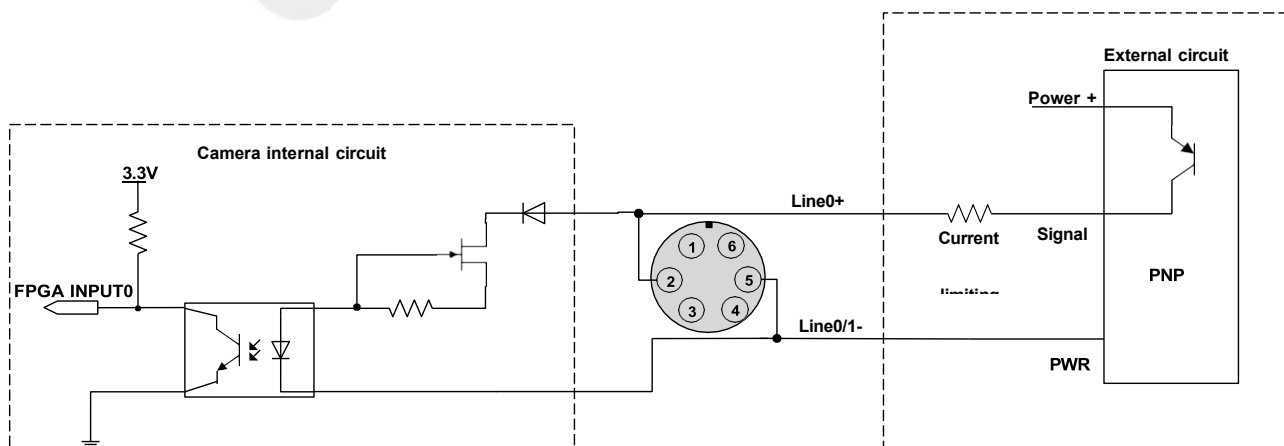

Figure 7-16 PNP photosensor connected to opto-isolated input circuit (2.5GigE)
- Rising edge delay: < 50 μs (0°C to 45°C), parameter description as shown in Figure 7-16.
- Falling edge delay: <50 μs (0°C to 45°C), parameter description as shown in Figure 7-16.